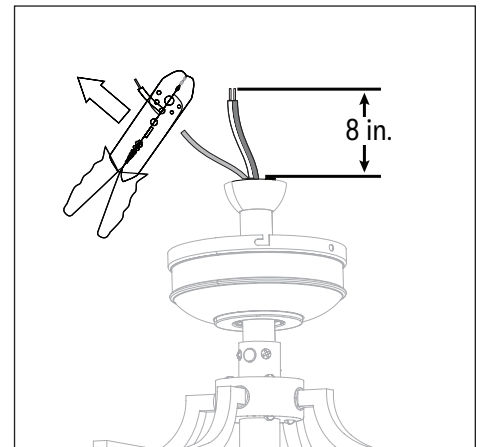

Figure 3.3
3. With wiring extending out of the downrod, measure 8 inches of lead wire from the top of the downrod and cut the excess wire with wire cutters (not included). Then strip 1/2" of insulation from the end of each wire (Figure 3.3).